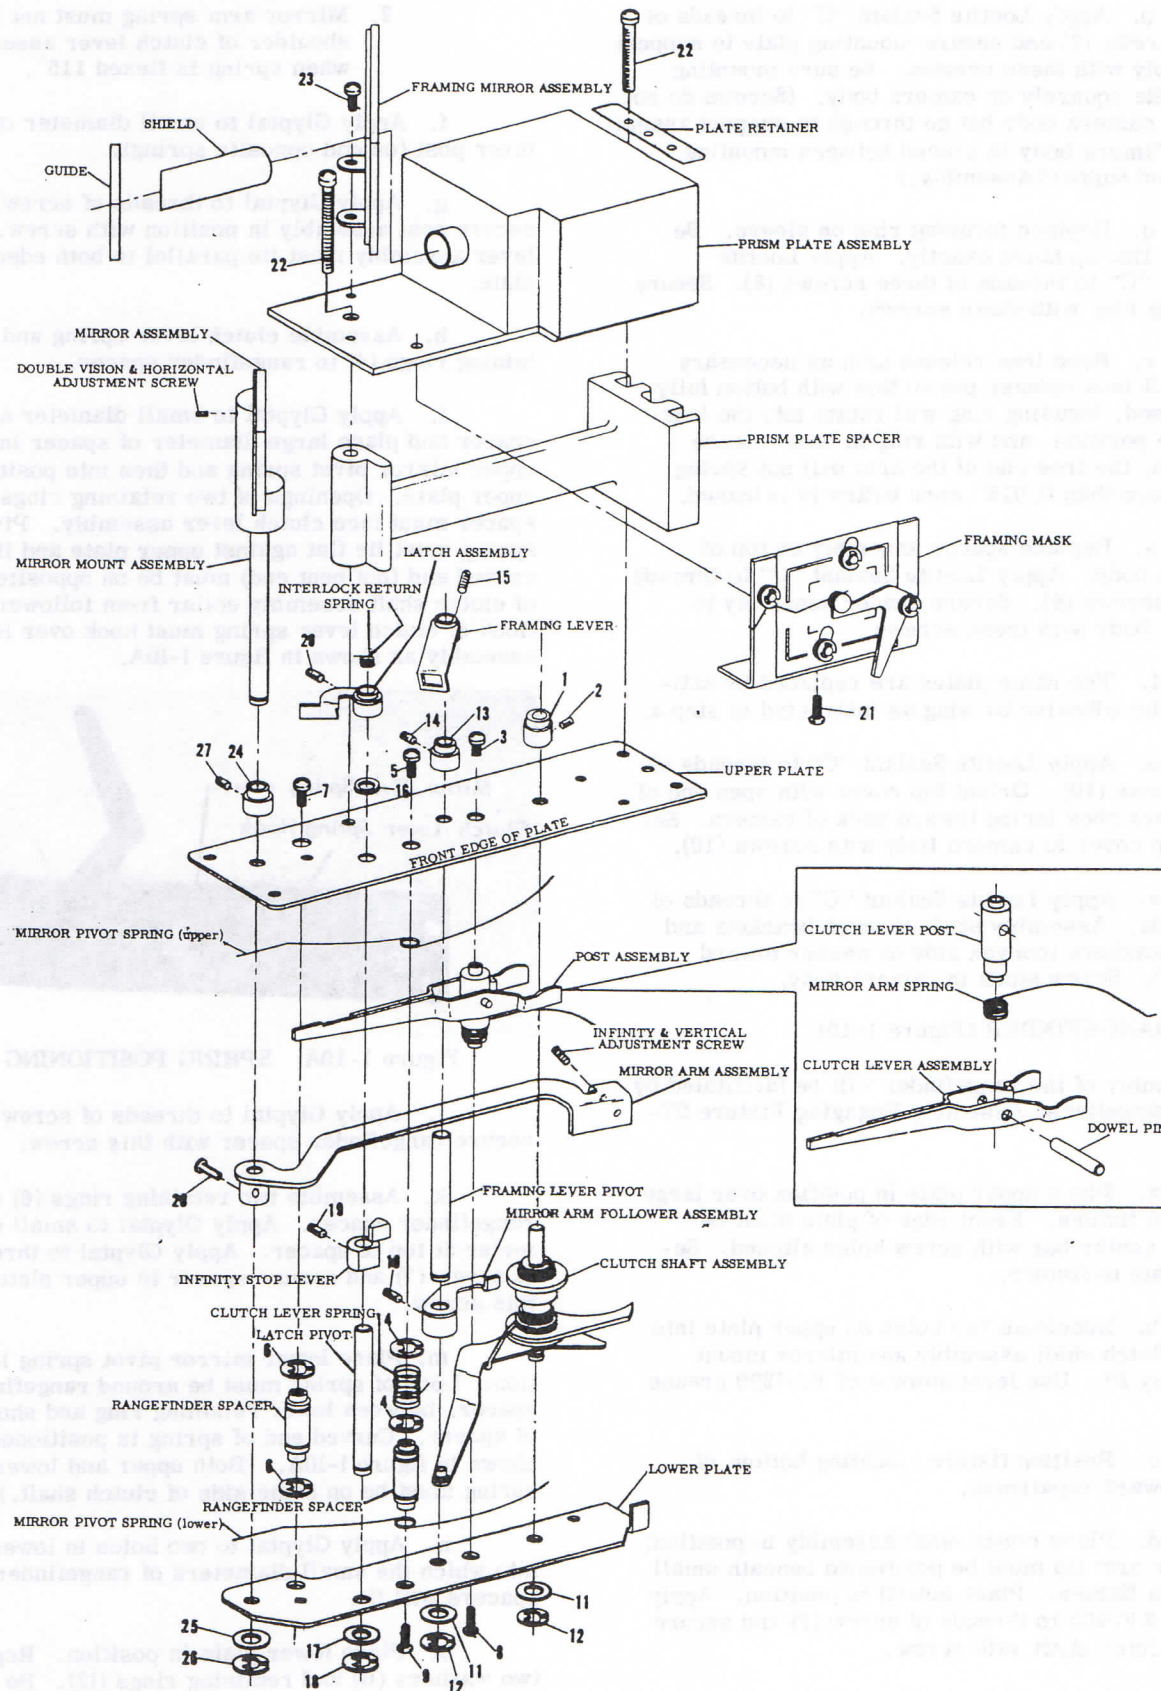
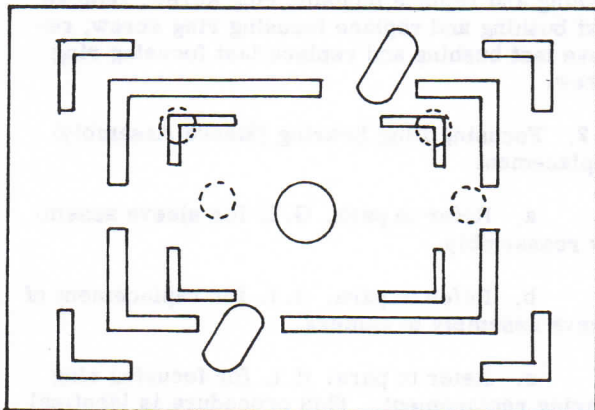
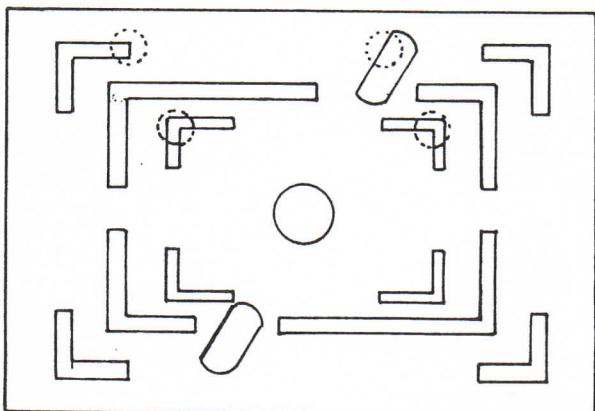
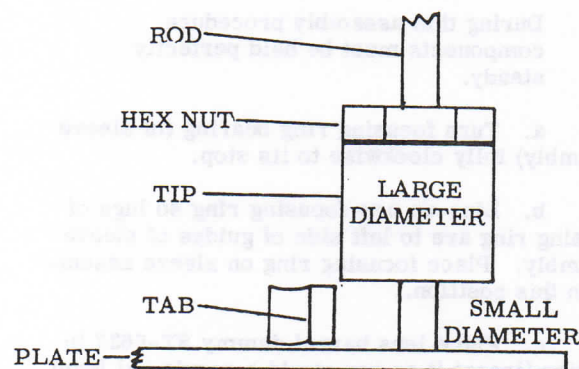

Figure 1-10. RANGEFINDER REASSEMBLY
Figure 1-11B. RANGEFINDER MASK SETTING AT INFINITY
Figure 1-11C. RANGEFINDER MASK SETTING AT FOUR FEET
Figure 1-11D. TAB SETTING
p. Apply Loctite Sealant "C" to threads of four screws (7) and secure mounting plate to support assembly with these screws. Be sure mounting plate sits squarely on camera body. (Screws do not engage camera body but go through to support assembly. Camera body is braced between mounting plate and support assembly.)
q. Replace focusing ring on sleeve. Be sure to line up holes exactly. Apply Loctite Sealant "C" to threads of three screws (8). Secure focusing ring with these screws.
s. Replace spacer assembly on top of camera body. Apply Loctite Sealant "C" to threads of two screws (9). Secure spacer assembly to camera body with these screws.
u. Apply Loctite Sealant "C" to threads of two screws (10). Orient top cover with open end of accessory shoe facing toward back of camera. Secure top cover to camera body with screws (10).
6. RANGEFINDER (Figure 1-10)
y. Use Four Foot Parallax Target ST-6638, Rear Eyepiece ST-6635, and Focusing Panel ST-6640 to center framed image. Place target four feet from film plane of camera. Place rear eyepiece on rangefinder by clipping it to prism plate spacer so lens is over rangefinder spacer. Place focusing panel in position by snapping it in place just as you would a film back. The small scope will be directly behind lens of rear eyepiece. Place focusing ring at infinity position. Line up camera through lens of focusing panel. Look through lens and line it up with fine line circle at bottom of target. Move follower assembly (Figure 1-10) against arm assembly (Figure 1-10) and orient lever assembly (Figure 1-10) to center inner corners of inner square of framing mask with two upper circles of
target as shown in figure 1-11B. Focus down to four feet and center inner corners of inner square of mask with two lower circles of target as shown in figure 1-11C. If framed image will not center vertically, loosen screw (15, Fig. 1-10) and move framing lever (up or down) on pivot. Minimum tolerance of 0.010" must be maintained. Refer to para. G.6. step y. If framed image will not center horizontally, loosen two screws (23, Fig. 1-10) and move framing mirror slightly clockwise or counter-clockwise.
f. Place front cover assembly in position on top cover assembly. Apply Glyptal to threads of three screws (13).
g. Place top cover assembly in position. Apply Glyptal to threads of two screws (14). Attach top cover assembly to camera body with these screws.
i. Infinity stop lever (Fig. 1-10) should be positioned against infinity stop pin (Fig. 1-10). If not in this position, push shoulder of lever clockwise until shoulder just contacts pin. Hold in position.
j. Tab of latch assembly must be positioned as shown in figure 1-11D. Loosen screw (20, Fig. 1-10) to make this adjustment. Be sure to tighten screw after adjustment.
n. Adjust clutch release tip to set free play between tip and clutch lever assembly (Fig. 1-10) from 0.005" to 0.010". This is accomplished by moving tip and hex nut up or down on clutch release rod.